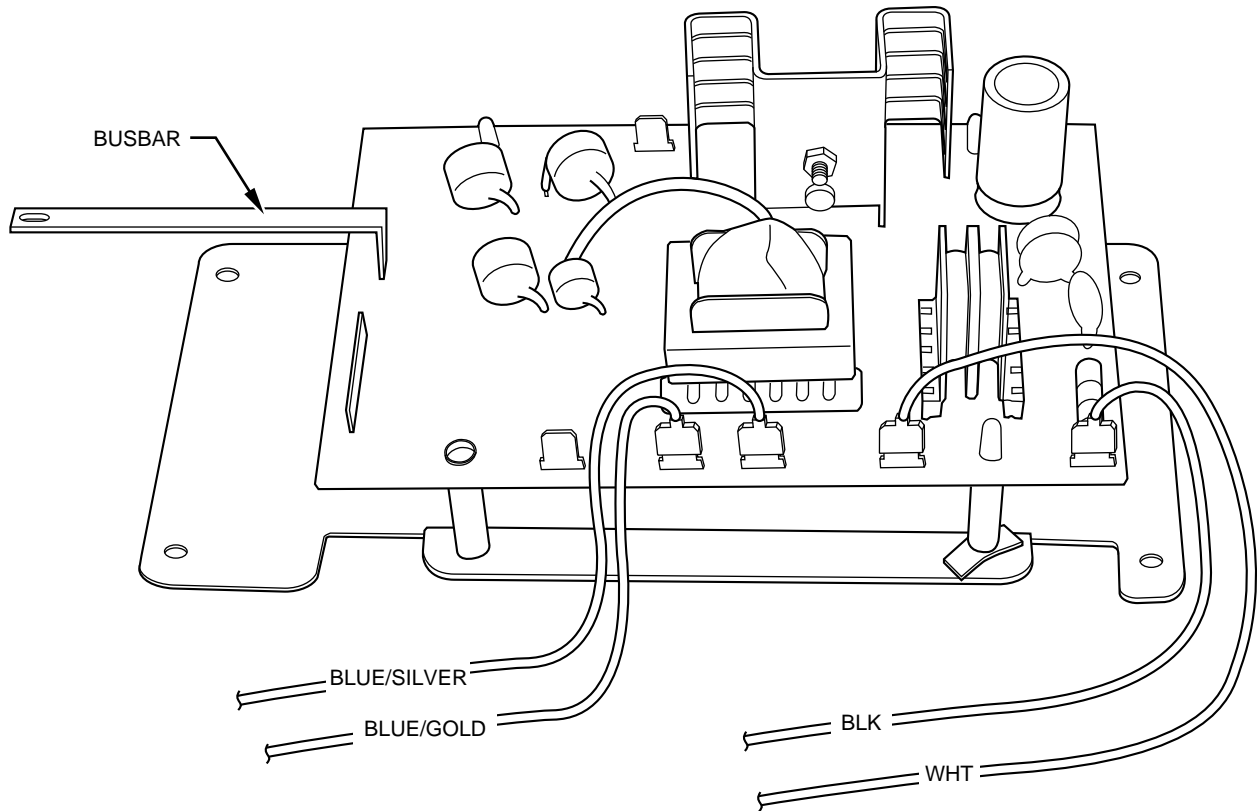

Fig. 3—Models 31KAX/901KAX with 120-60-1 Electrical Supply
3. Connect existing wires and bus bar for models 31SX and 901E also G. (See Fig. 1.) Do the same for models 31KAX and 901KAX. (See Fig. 3.)